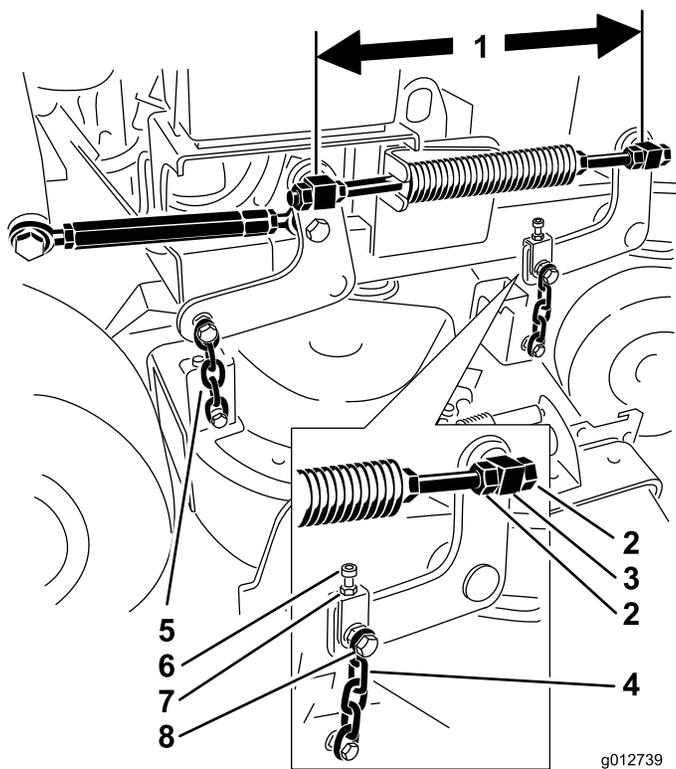

Figure 81
6. Check the distance between the swivels, measure at the center of the swivels (center-to-center length) on the threaded rod. This length needs to be 19-1/2 inches (49.5 cm) for 36in mower decks and 17-3/16 inches (43.7 cm) for 40in mower decks (Figure 81).
9. Use the jam nuts at the front swivel to adjust the length between front and rear swivels on that side (Figure 81).
11. Use the adjustment bolt to get equal tension on both front chains (Figure 81).
5. Loosen the nut on the upper chain bolt and the jam nut on the adjustment bolt (Figure 81).
6. Use the adjustment bolt to achieve 1/4 to 3/8 inch (6 to 10 mm) lower in front at **A** than in the rear at **B** (Figure 81).